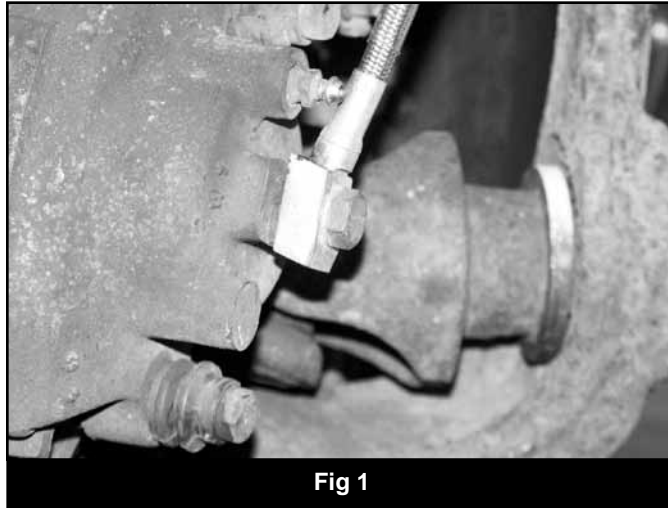

Fig 1
9. Ensure that the old crush washer is removed from the caliper and that the brake line mounting surface is clean. Attach the new brake line to the caliper using two new crush washers on each side of the hose fitting and the OE banjo bolt. Tighten the banjo bolt to 20 ft-lbs. (Fig. 1)